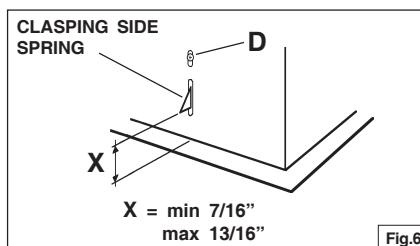

Fig.6
3. Adjust the position of the clasp side spring by turning the "D" screw according to the thickness of the cabinet to which it is going to be anchored (Fig.6).